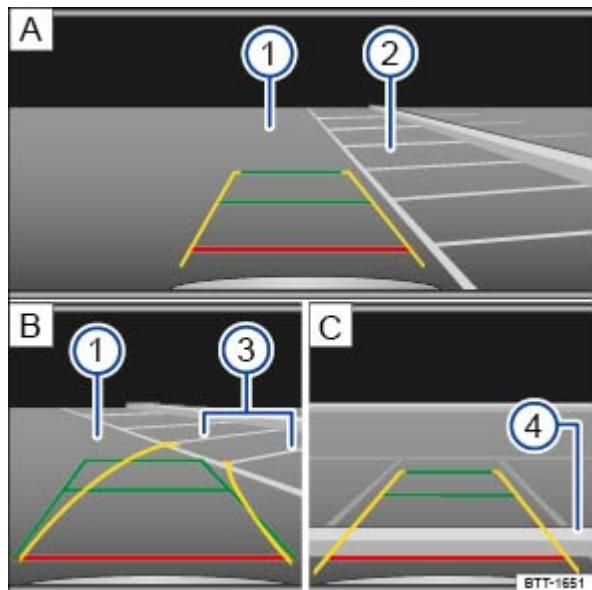

Fig. 135 Orientation lines for perpendicular parking.
Key to \Rightarrow Fig. 135 :
- Position the vehicle in front of the parking space ⇒ Fig. 135 A ②.
- Slowly back up and steer so that the yellow orientation lines lead into the selected parking space B ③.
- Align the vehicle in the parking space so that the green and yellow orientation lines are parallel to the selected parking space B ③.
- Stop the vehicle before (or at the very latest, when) the horizontal red line reaches the rear boundary, for example, a curb C ④.